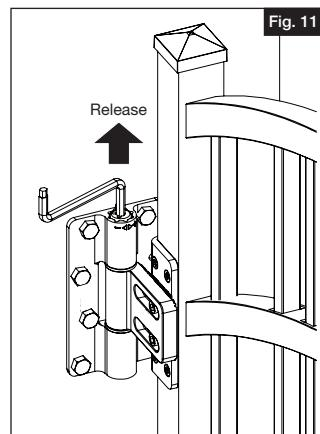

Fig. 11
- c. When you have set the desired tension, simply release the downward pressure on the tension adjustment pin to lock it back into the hinge barrel. Tabs on pin head will fit into notches in hinge barrel when pin is in fully locked position (Fig. 11).